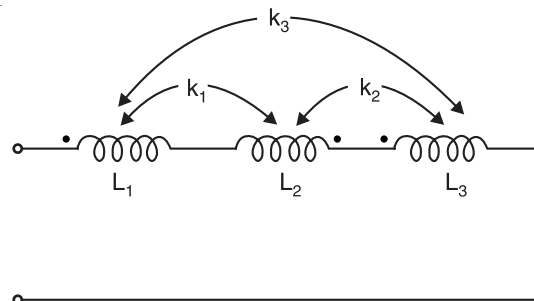

Fig. 9.24
**Example 9.36.** Fig. 9.24 shows three inductances in series. Find the total inductance of the circuit from the following data :